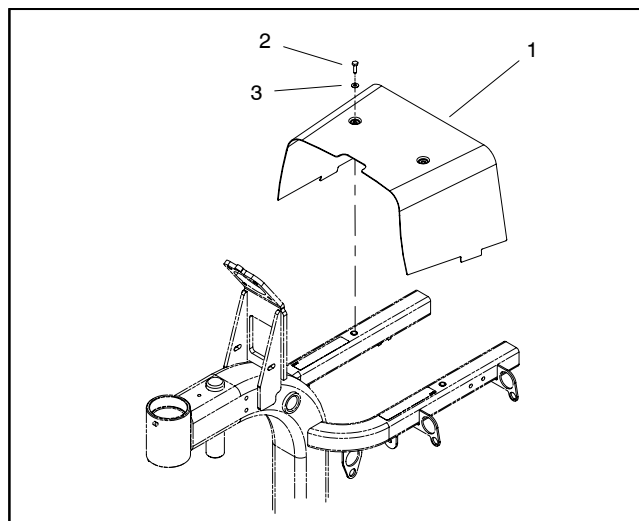

Figure 17
2. Remove center shroud to allow access to traction neutral switch (Fig. 17).
9. Install center shroud to machine (Fig. 17).